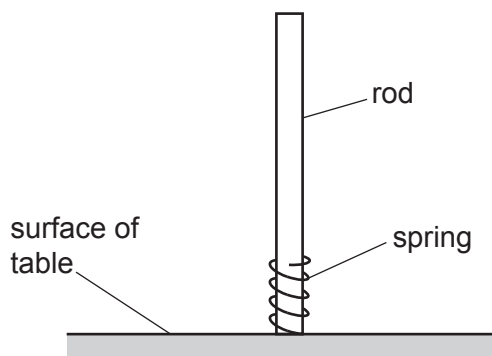

Fig. 3.1 (not to scale)
- 3** A vertical rod is fixed to the horizontal surface of a table, as shown in Fig. 3.1.